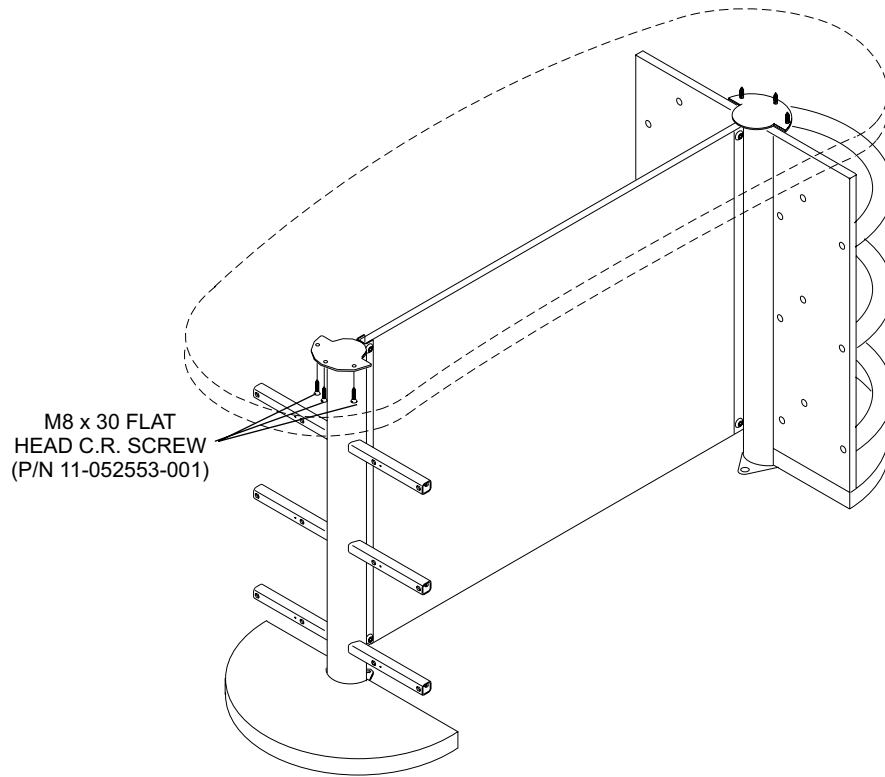

Figure 3
- Slide new trash can support and base assembly under table top and secure to table top with M8 x 30 flat head C.R. screws (P/N 11-052553-001). Refer to *Figure 3*.